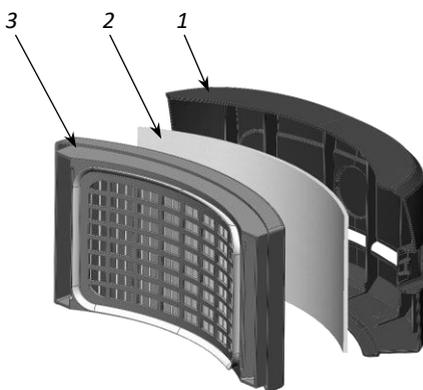

Figure 7
1. Ensure that the HEPA filter has been installed correctly as shown in Figure 7 on page 15.